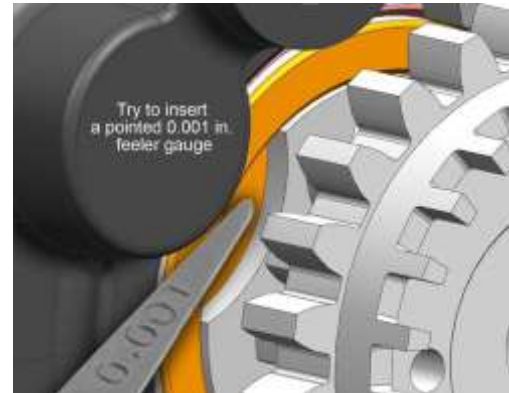
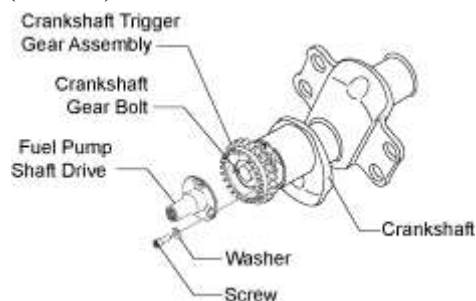

Figure 115
Figure 116
- (1) Try to insert a pointed 0.001 in. (0.025 mm) feeler gage or shim between the pilot flange (Figure 115) of the crankshaft trigger gear assembly and crankshaft counterbore at each of the three scallops on the pilot flange of the crankshaft trigger gear assembly. The feeler gage must NOT fit between the two surfaces at any location. There must not be any gap or clearance between the crankshaft counterbored end and the pilot flange of the crankshaft trigger gear assembly.
- (2) If clearance is found, remove the crankshaft gear bolt and crankshaft trigger gear assembly.
- (3) Make sure the mating surfaces of the crankshaft trigger gear assembly and crankshaft counterbore are clean and dry and that there is no debris.
- (4) Reinstall the crankshaft trigger gear assembly and crankshaft gear bolt. Repeat the initial torque and seating check above.
- (5) Try again to put a pointed 0.001 in. feeler gage or shim stock between the crankshaft trigger gear assembly pilot flange and crankshaft counterbore at each of the three scallops on the crankshaft trigger gear assembly pilot flange.
- K. Install the fuel pump shaft drive (Figure 116) with three screws and three washers. Torque the screws to 100 in.-lb. (11 Nm).